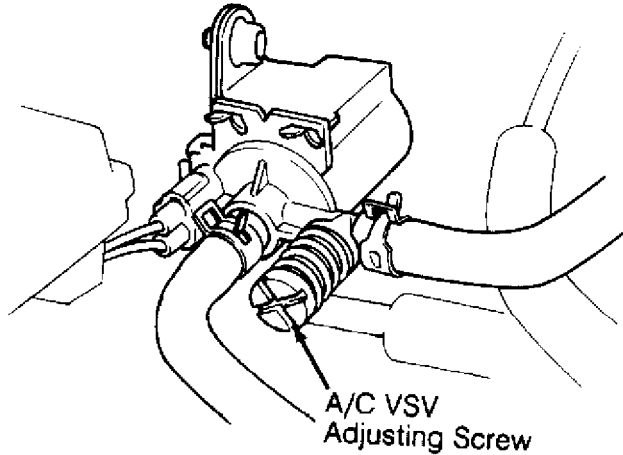

Fig. 6: Locating A/C VSV Adjusting Screw (Samurai & Sidekick)
5) Turn A/C on, and set fan switch to LOW position. Check idle speed and IAC duty percentage. If idle speed and/or IAC duty percentage is not within specification, turn A/C VSV adjusting screw to adjust idle. See Fig. 6.
5) Turn A/C on, and set fan switch to LOW position. Check idle speed and IAC duty percentage with A/C on. If idle speed and IAC duty percentage are not as specified, turn A/C VSV adjusting screw to adjust idle to specification. See Fig. 6.